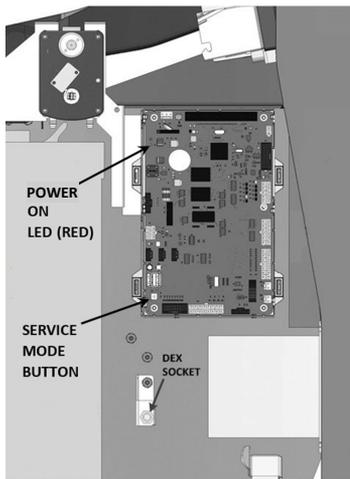

Figure 1 – Service Mode Button
To enter **Service Mode**, press the **Service Mode Button** located in the lower left hand corner of the control board. See figure 1. To exit Service Mode, press the Service Mode Button again or press the key 3 times.